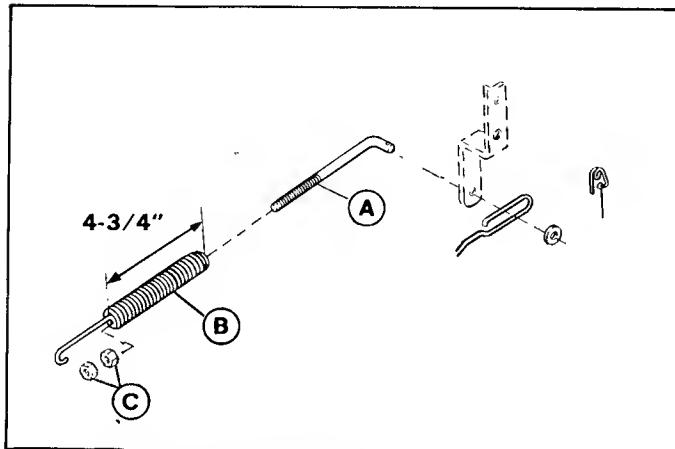

Figure 22. PTO, 42" Mower
4. Disengage the mower PTO lever. Disconnect the PTO rod by removing pin (D, figure 22). Push the PTO rod forward to expose the nuts which are inside the spring. Loosen outer nut so inner nut can be adjusted. Tighten nuts onto rod to increase measurement or back off rod to decrease. Engage PTO lever to re-check